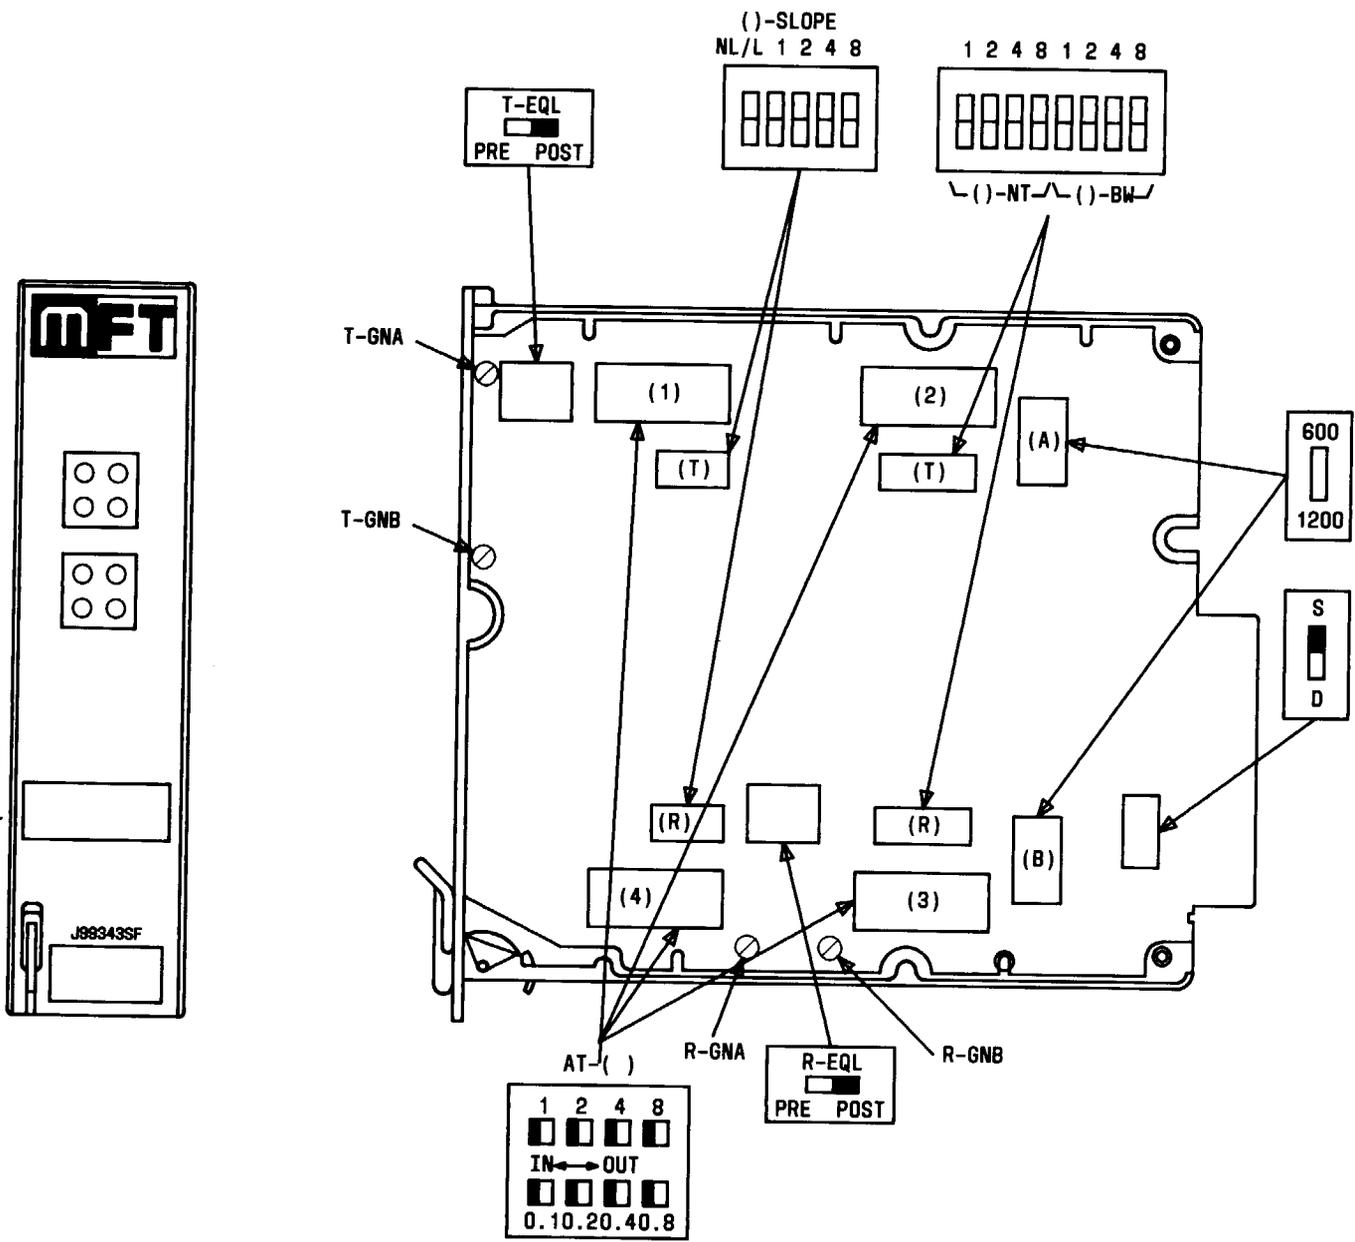
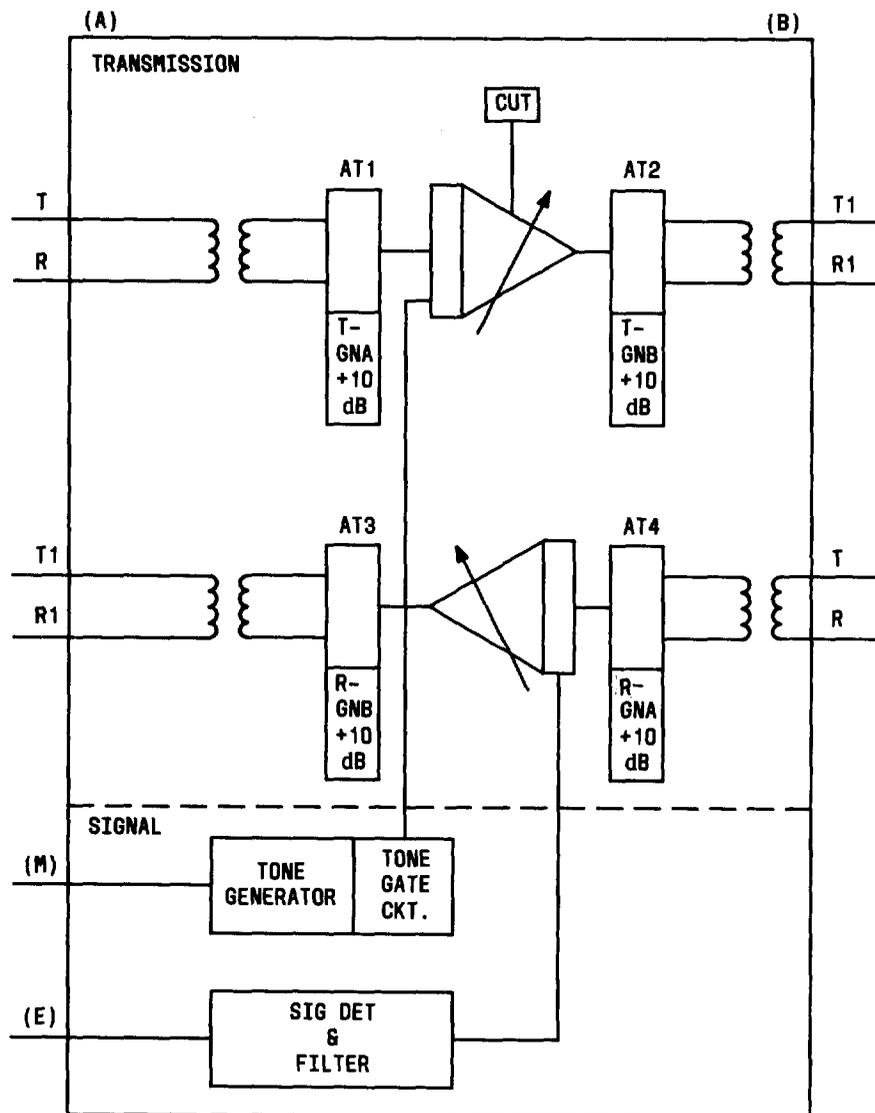

Fig. 1—Component Layout of the SF Signaling/4-4 Wire Repeater (J99343SF)
Fig. 2—Block Diagram of the J99343SF CFU
2.01 The J99343SF CFU is shown in Fig. 1. The unit provides gain and equalization for both directions of transmission between loaded or nonloaded 4-wire facilities. Figure 2 is a block diagram of this unit.
or AT4 shown in Fig. 1) is adjusted, based on station or facility design requirements, to attenuate the gain from 0 to -16.5 dB.
2.10 The rocker-type or slide-type switches, which are described in the following paragraphs, are operated when depressed or pressed toward the respective designation. The sum of the values of the switches operated is the setting for that function. The unit controls are illustrated in Fig. 1.